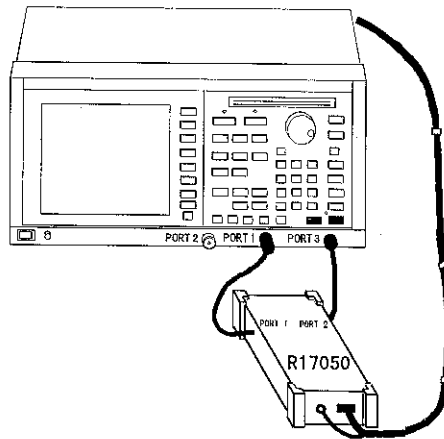

Figure 2-12 RF Port Connection
5. Connect cables between the RF ports of the instrument and PORT 1 and PORT 3 of the network analyzer (see Figure 2-12).